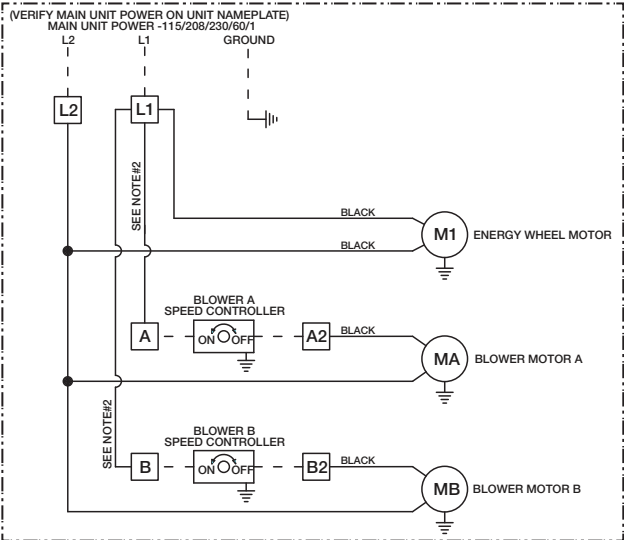

Figure 11
- c. Refer to the wiring diagram below (Figure 11) or in the unit for controlling the ventilator.